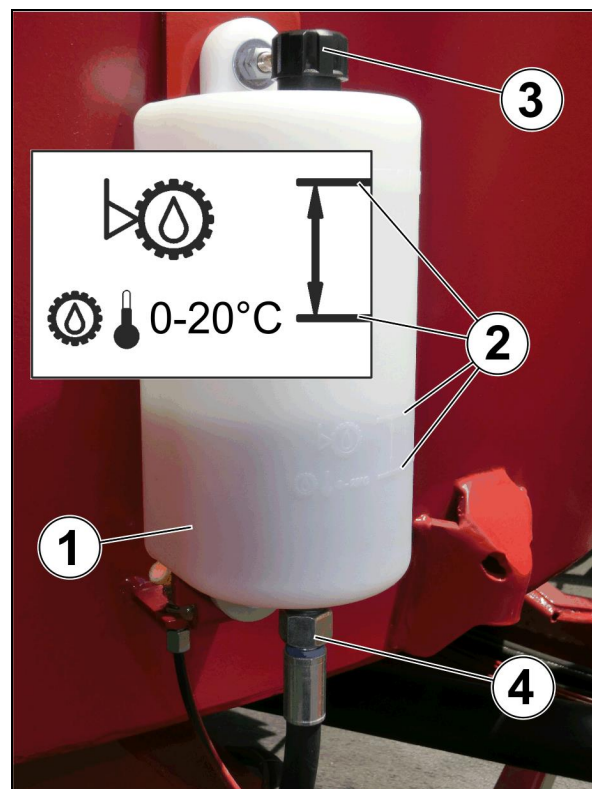

Fig. 83
1. Check the oil level in the mixer gearbox via the lateral compensating reservoir (Fig. 83/1).
The oil level must be visible between the two fill level markings (Fig. 83/2) of the compensating reservoir.
2. Fill gear lubricant oil (see Quantities when filled and change intervals, p. 170) through the vent opening into the compensating reservoir after removal of the vent screw (Fig. 83/3) if necessary.
3. Place a drip tray (capacity approx. 30 litres) beneath the compensating reservoir (Fig. 83/1).
4. Remove the vent screw (Fig. 83/3).
5. Unscrew the hose pipe (Fig. 83/4) from the compensating reservoir.
6. Refix the hose pipe (Fig. 83/4) to the compensating reservoir.
13. Fill gear lubricant oil (see Quantities when filled and change intervals, p. 170) through the filling pump into the mixer gearbox until the gear lubricant oil pours via the connector (Fig. 83/4) into the compensating reservoir (Fig. 83/1) and the oil level is visible between the two markings (Fig. 83/2) of the compensating reservoir.
17. Screw the vent screw (Fig. 83/3) again onto the vent opening of the compensating reservoir (Fig. 83/1).
20. Fill gear lubricant oil through the vent opening (Fig. 83/3) into the compensating reservoir if necessary.